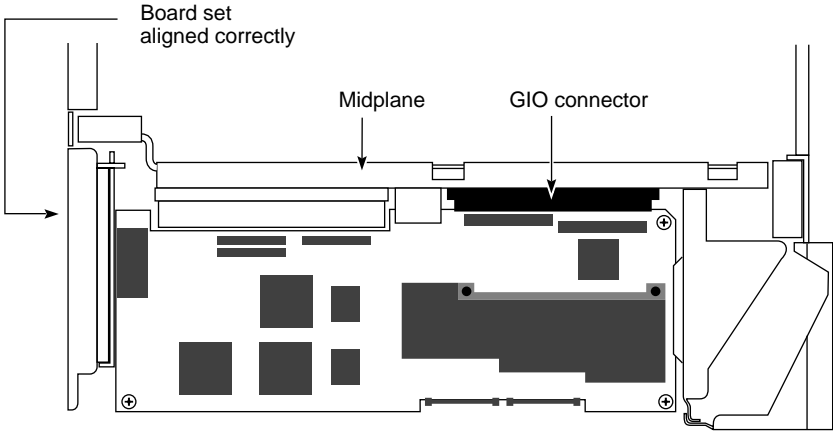

Figure 5-49 Board Set, Correctly Aligned, Viewed From Above
- 5. Visually check to be sure the boards are completely seated in their connectors. The board set should not look tilted when viewed from above. See Figure 5-49.